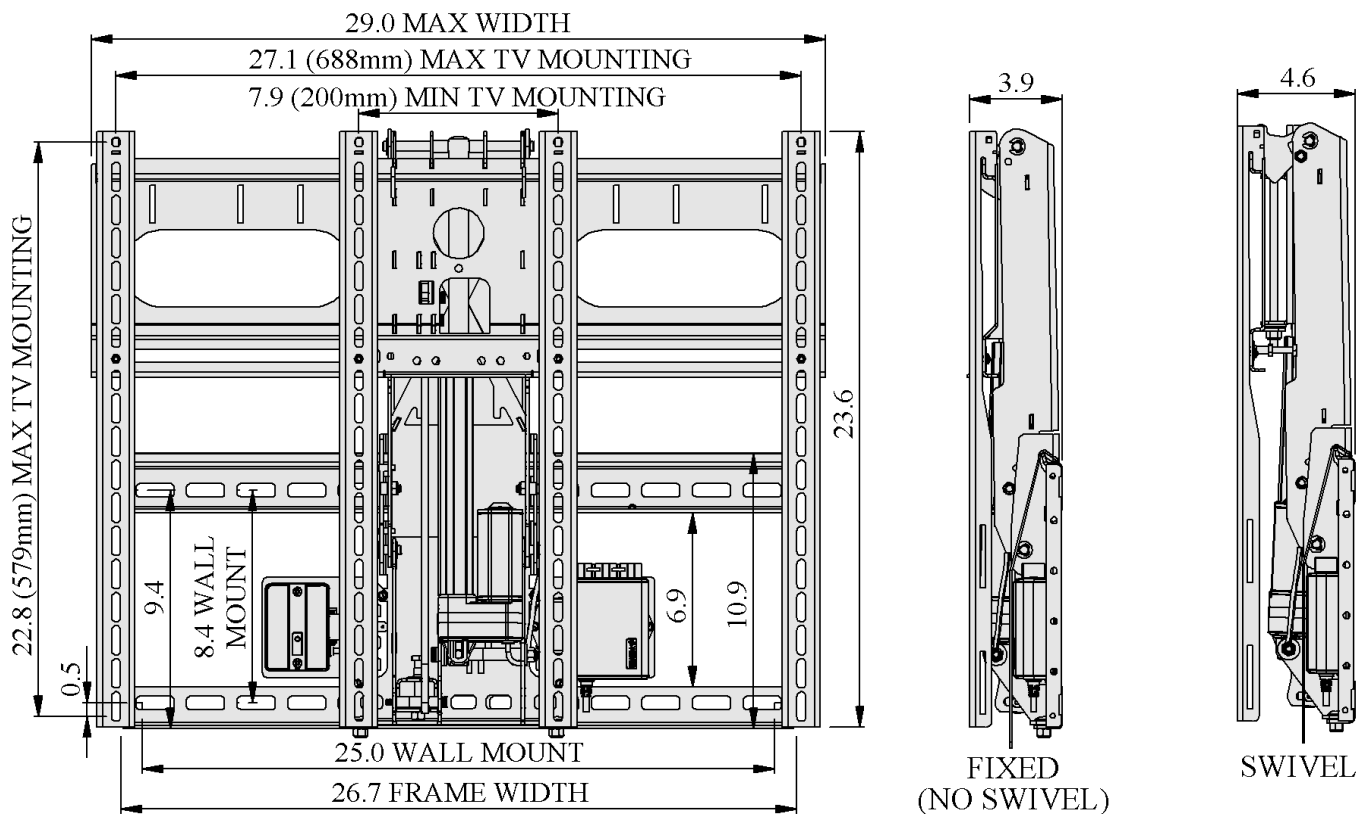
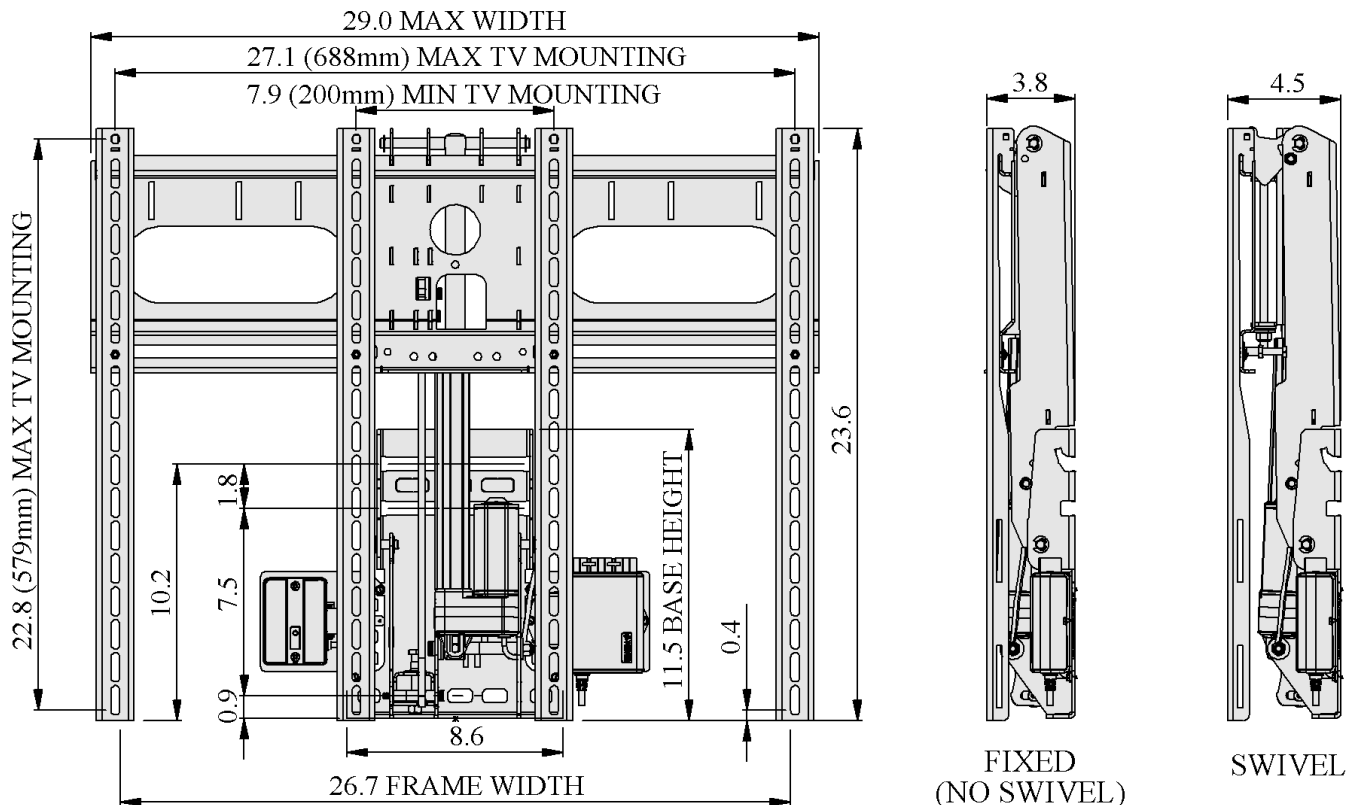

Figure 1, Mount Overall Size, Television Mounting Hole Pattern Range, Wall Mounting Hole Pattern Range
Figure 5, Mount Overall Size without Frame, Television Mounting Hole Pattern Range, Wall Mounting Hole Pattern Range
- **Note for smaller televisions;** the mount may be wider or taller than the television. If this is the case then the mount may be visible in the top position. See Figure 1
- Allowable television mounting pattern: 7.9in (200mm) to 27.1in (688mm) wide, up to 22.8in (579mm) high. Works with all VESA patterns in that range, See Figure 1 with Frame, Figure 5 without Frame
- Product Dimensions Non-Swivel: 29.0 x 23.6 x 3.9 inches. Swivel: 29.0 x 23.6 x 4.6 inches. See Figure 1
- Figure 1 is the overview with the Frame
- Figure 5 is the overview of the Single Stud
5. Figure 1 and Figure 5 show important dimensions of the mount.